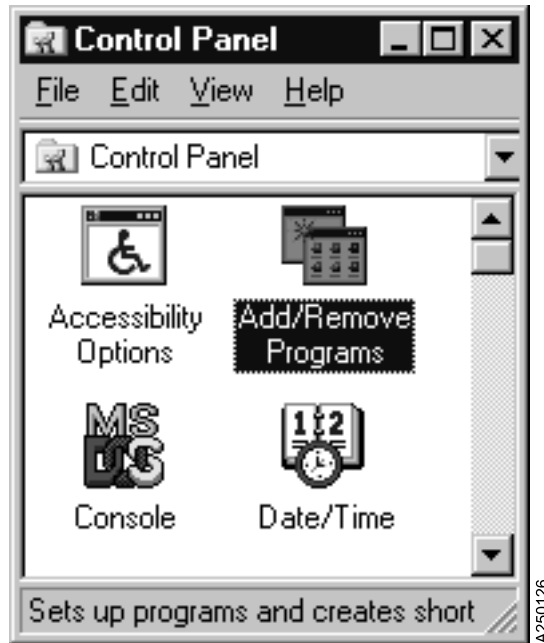

Figure 18. Control Panel Selection
6. Click **Add/Remove Programs** in the **Control Panel**. See Figure 18 .